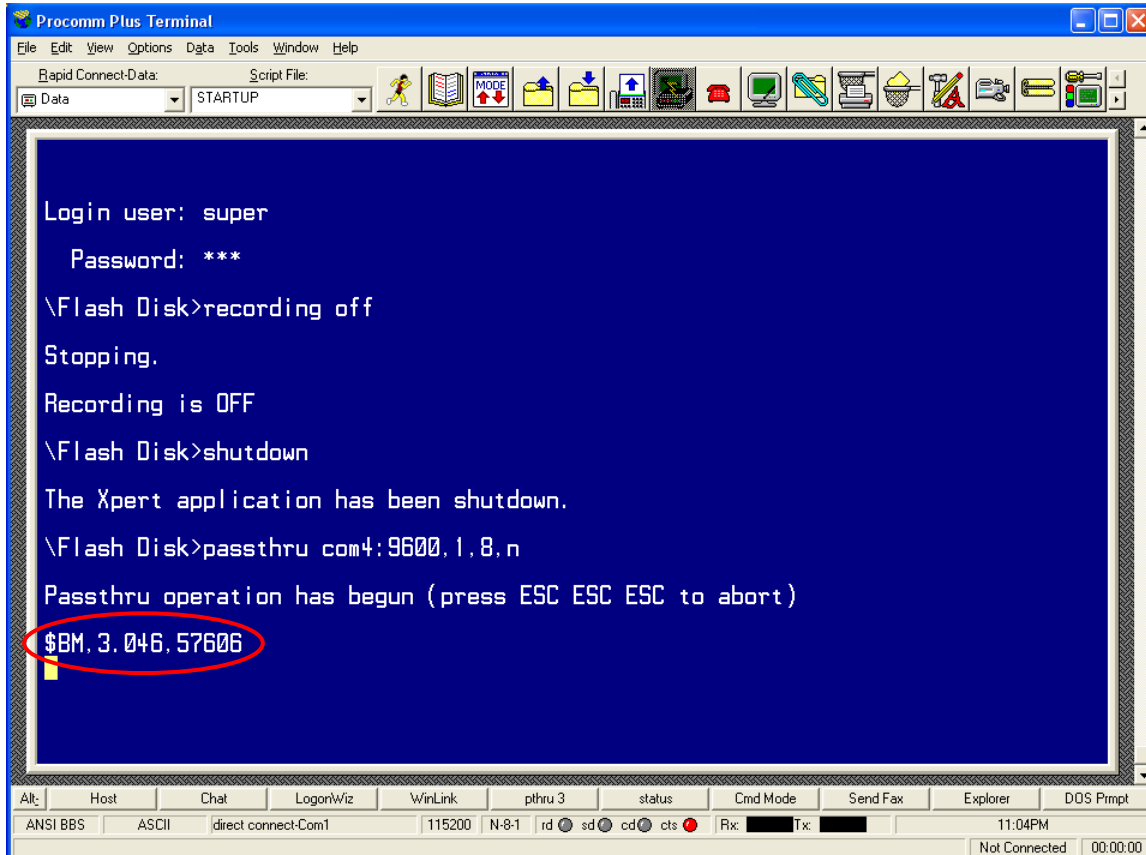

Figure 21
4. Type **\$BM** and then press ENTER (fig. 21).
The sensor will respond with a \$BM and two values as shown in fig. 21. The first value is the distance between the sensor and the target in meters (3.044). The second is a measure of the signal strength (51475). This reading assumes the sensor is in an operational mode. If the sensor is in the command mode, it will respond with \$ER, 86. This response is not a problem because you are just checking to make sure the communications between the computer and the sensor are operating properly. The \$ER, 86 response shows that you are connected to the sensor.